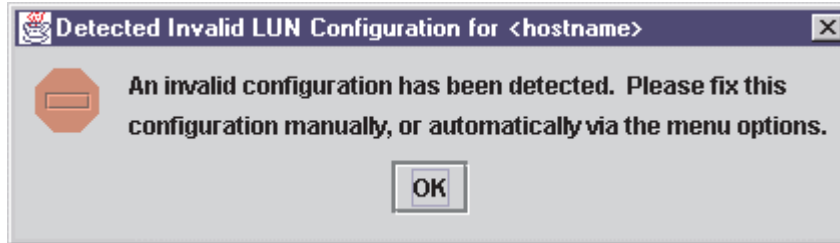

Figure 97. Detected Invalid LUN Configuration Error dialog window
- If FASTT MSJ detects an erroneous LUN configuration, the message shown in Figure 97 on page 222 is displayed. Click **OK** to continue.